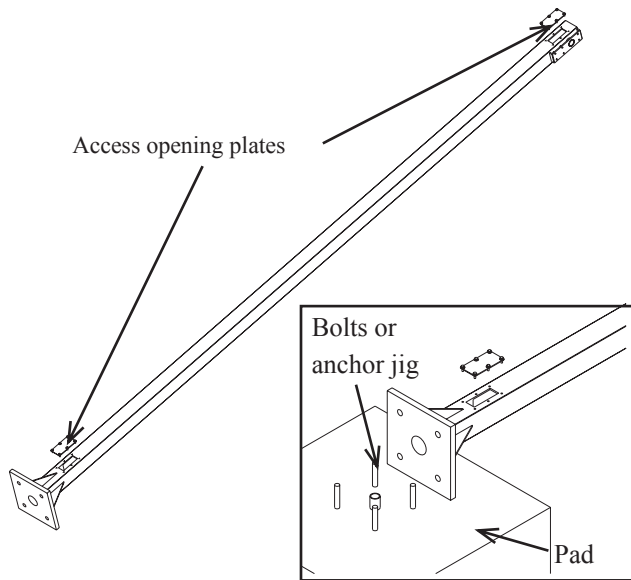

Figure 5 Placement of Pole on Pad
1. Place the pole on the pad with the holes on the Base Plate aligned with the bolts of the anchor bolts or anchor jig (Figure 5).